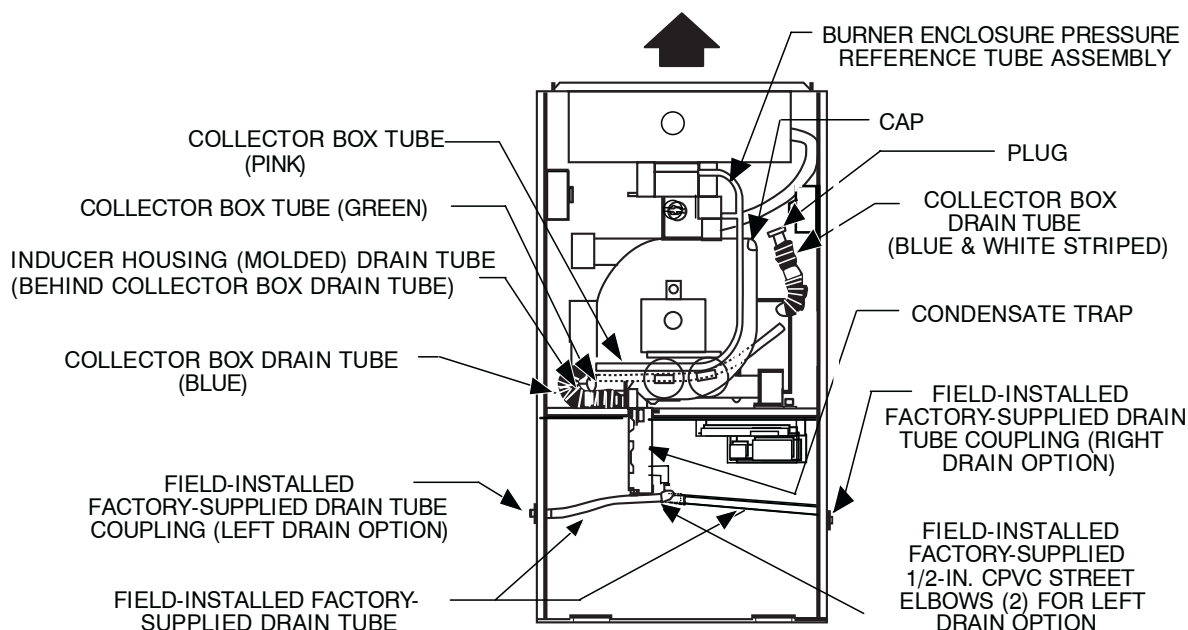

**Fig. 5 – Factory-Shipped Upflow Tube Configuration
5. If condensate trap is located in left- or right-hand side of furnace casing, proceed to item 6. Otherwise remove trap and tubing as described below (See Fig. 5.):
- b. Connect condensate trap drain tubes. See Fig. 5 or tubing diagram on main furnace door for proper tube location.